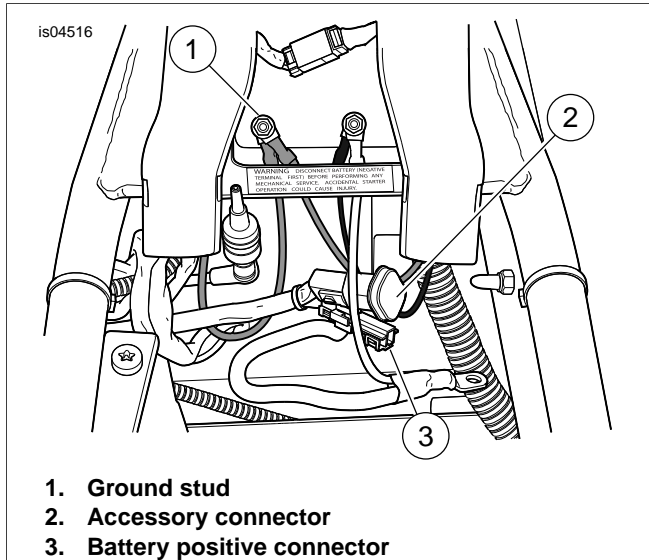
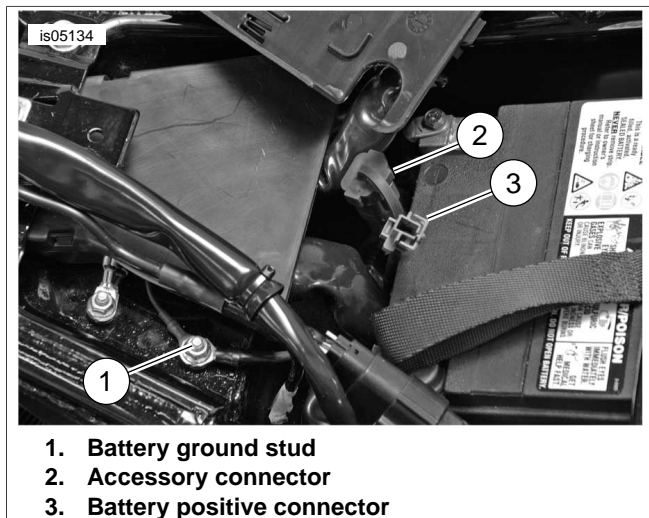
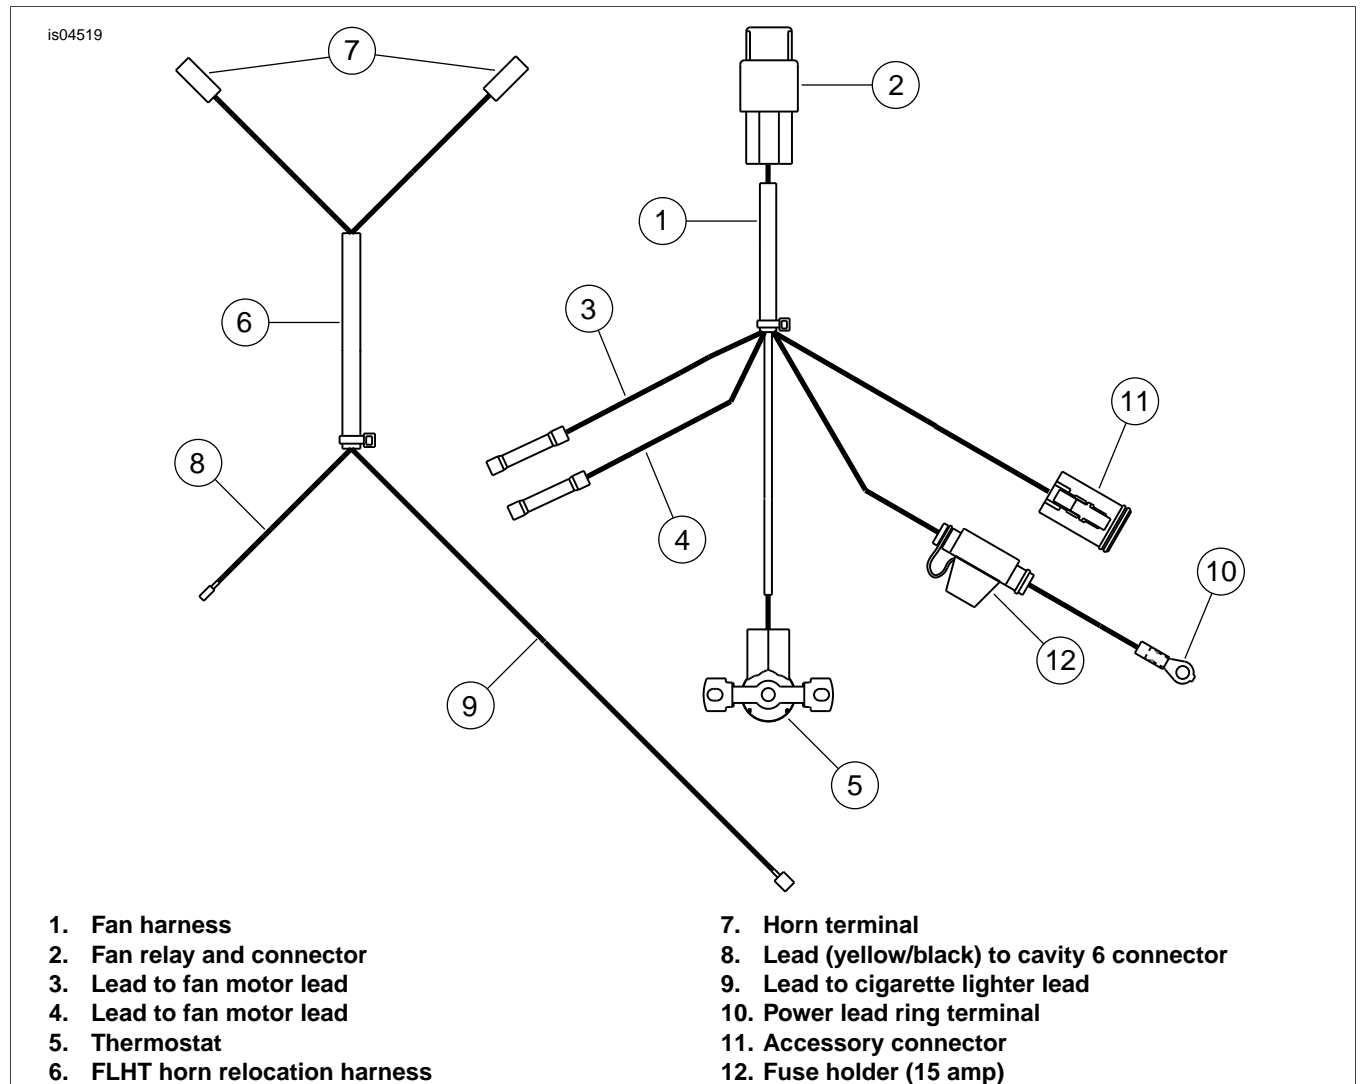

Figure 2. 2007 and Later Under Seat Connectors
Figure 3. 2008 and Later Under Seat Connectors
Figure 6. Wire Harness
See Figure 2 and Figure 3 for the battery positive connector on your model year.
- d. Strip 3/8 inch wire from the ends of the leads and follow Service Manual instructions in "SEALED BUTT SPLICE CONNECTORS" to crimp and heat connector (22) to splice lead of the battery positive adapter to the fuse holder lead on the wire harness.
2. Connect socket connector on accessory fan harness (Figure 6) to pin connector (11) on accessory connector (2) (Figure 2 and Figure 3).
13. See Figure 6. Connect motor leads to the sealed butt connectors on the accessory fan harness. Connect as follows: